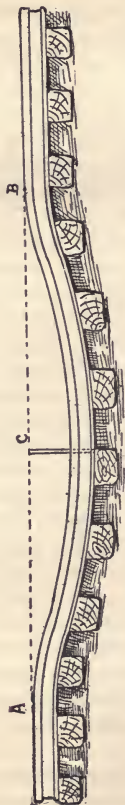

FIG. 13.
**RULE:**—Set two stakes, *A* and *B*, close to the track rails and level with their top surface at each end of the sag, as shown in Fig. 13. Then set a third stake *C* at the middle of the sag and in line with *A* and *B*, and drive it down until the top of it is level with the tops of the outer two stakes. You can ascertain whether this is the case by sighting over *A* and *B*. Measure the height of stake *C* above the ground and multiply it by the distance in feet from *A* to *B*, and again multiply the product by 14 or 16 feet for the width of the embankment. This will give you the contents in cubic feet and dividing the whole number of cubic feet by 54 will be the number of cubic yards of dirt or ballast which will be required to surface up the sag. If the sag is deeper than twelve inches an allowance of one foot in width for each foot in depth should be made up for the side slopes. An allowance of about one-sixth of the depth below level in some cases should be made on the middle of light sags when surfacing up. This can best be done by leveling a sight board the proper height in the middle of the sag and sighting the track to it from one end, and from that point sighting the rails to where the sag runs out at the other end. A sag, which has only been raised level with the track on each side of it, will soon become low again in the middle unless made very solid.